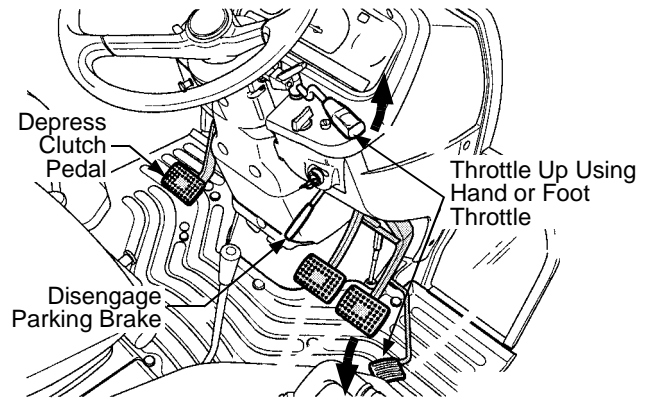

Figure 28
- Momentarily depress the brake pedals to disengage the parking brake. Refer to Figure 28.
- Throttle up the engine to a moderate speed using either the hand throttle or foot throttle. See Figure 28.